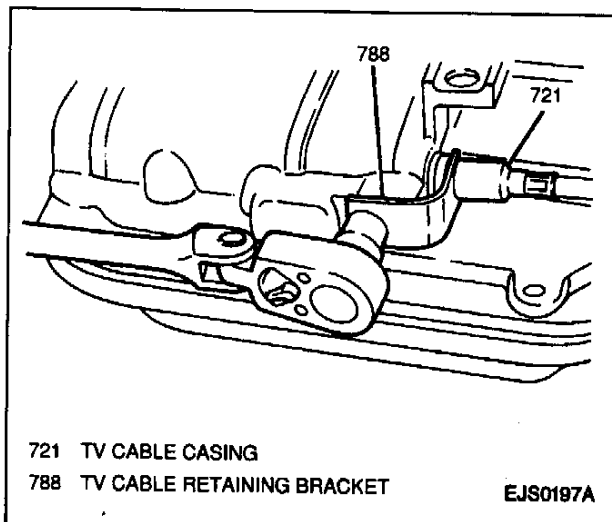

Figure 21—Removing TV Cable Retaining Bracket (3L30, 3-Speed)
6. One bolt and TV cable retaining bracket from transmission (3L30, 3-Speed) (Figure 21).
2. TV cable retaining bracket to transmission; secure with one bolt (3L30, 3-Speed) (Figure 21).